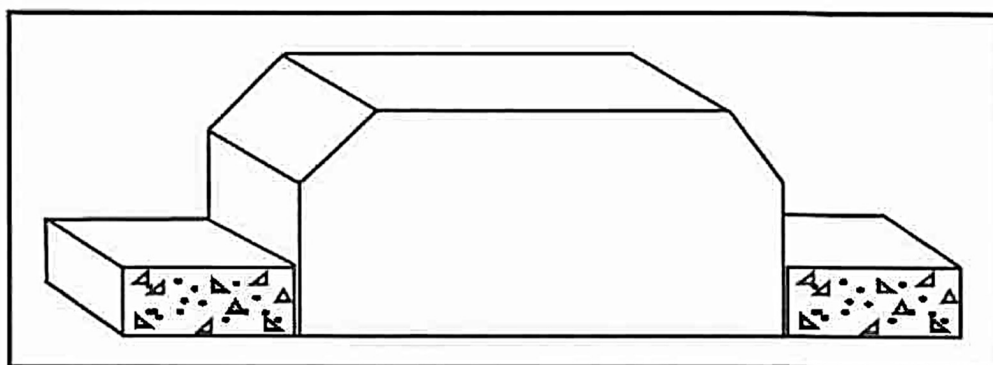

FIGURE 6.9
- 6.9 FIGURE 6.9 below shows a faulty installation of a floor construction. Analyse FIGURE 6.9 and answer the questions that follow.
6.9.5	State THREE factors that must be considered when planning the type of construction in FIGURE 6.9.
6.9.7	Draw a neat, freehand drawing in the space provided and rectify the faults in FIGURE 6.9.